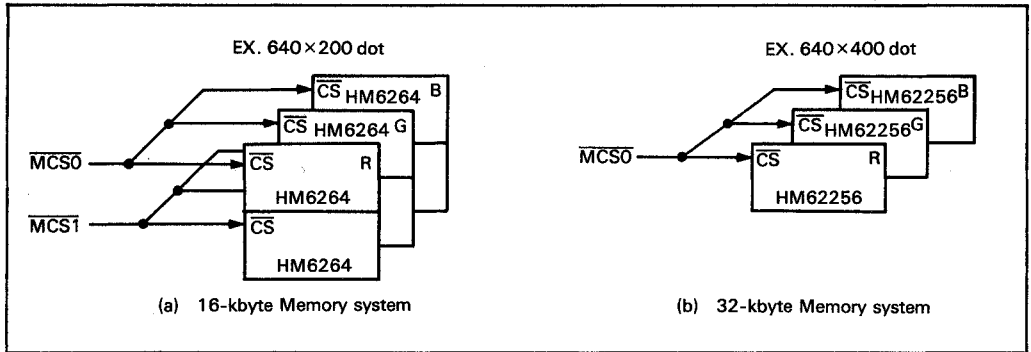

Figure 5. Relation between Display Screen Memories
Therefore, each plane needs two HM6264s, which has 8-kbyte memory capacity, in 8-level gray scale display modes. Connect $\overline{\text{MCS0}}$ with one of the memories of each plane and $\overline{\text{MCS1}}$ with the other (figure 5 (a)).
When the screen size is 640 × 400 dots, 32-kbyte memory capacity is required (figure 5 (b)).
8-Color Display (Mode 9 to Mode 16): In 8-color modes 9-16, the LVIC displays 8 colors with red (R), green (G), and blue (B) filters on liquid crystal cells. The eight colors are the same as those provided by CRT display. As illustrated in figure 5, 8-color display has of two stripe modes: horizontal stripe mode and vertical stripe mode. In the former mode, the LVIC arranges R, G, B data horizontally, with horizontal filters. In the latter mode, the LVIC arranges R, G, B data vertically, with vertical filters. Three cells express a dot in both modes.